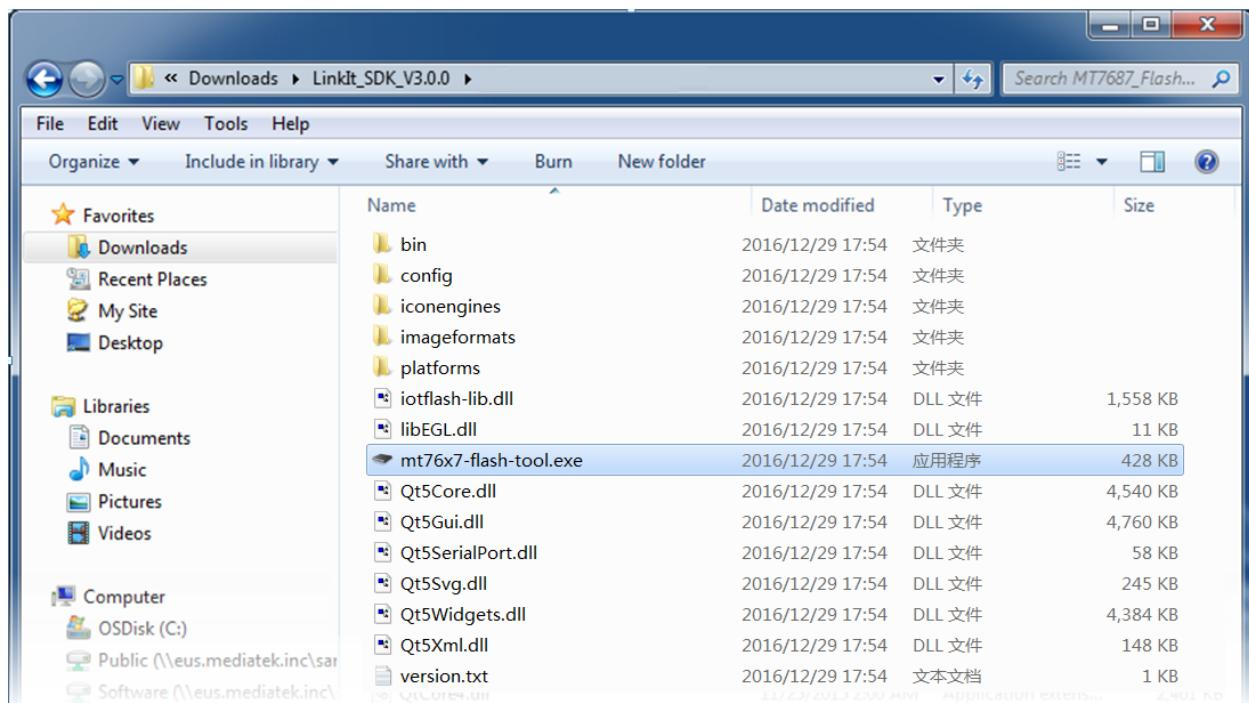

Figure 6. Executable file in the MT76x7 Flash Tool's destination folder
- 2) Execute the `mt76x7-flash-tool.exe` to launch the Flash Tool (see Figure 6).